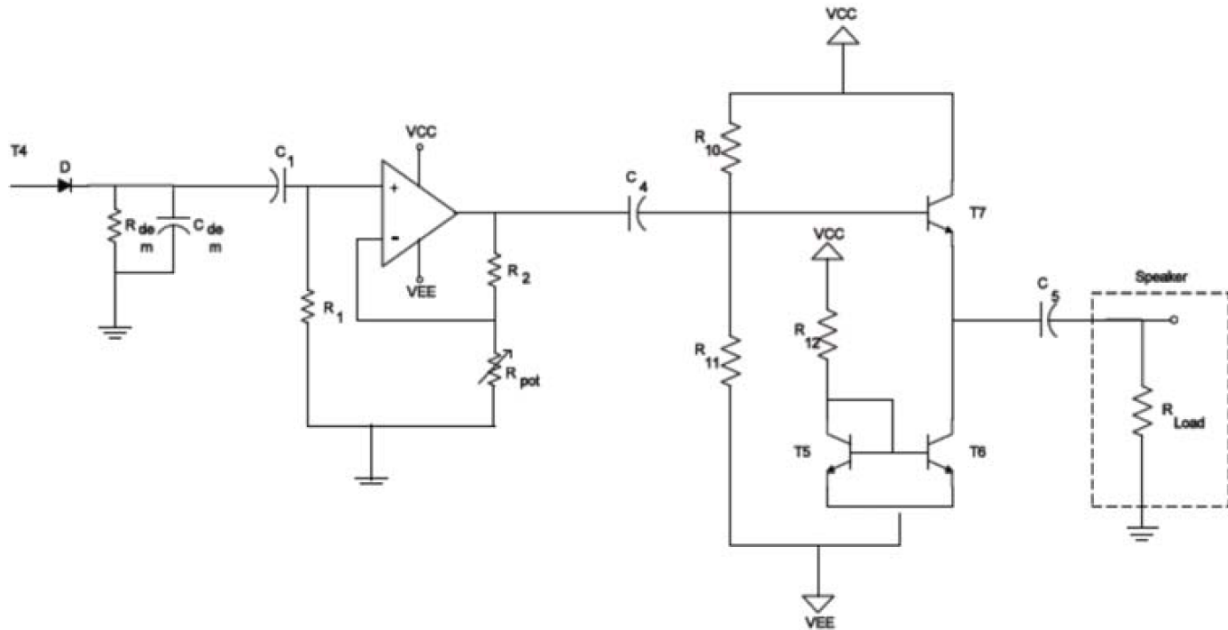

Figure 6 - AM receiver schematic
The AM receiver is built by connecting the different stages together in a straightforward manner as shown in *figure 6*.
1. Connect the speaker as shown in *figure 6*. Input an AM modulated signal corresponding to your carrier frequency from the generator. Listen to the output and confirm that you can hear different musical tones depending on the baseband signal's frequency. Table 1 gives a reference for the different tones you should subject your system to. *Note that you can use the potentiometer for volume control and then you may have to use a resistor in series with the signal generator to reduce the input amplitude to levels which are comparable to antenna received radio signals (few mV).*